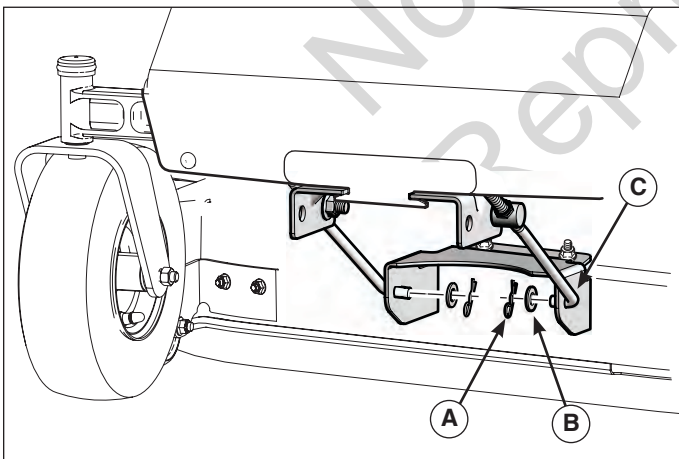

Figure 19. Front Lift Arms
10. Remove the hair pin clips (A, Figure 19) and washers (B) that secure the front hitch rods (C). Separate the front hitch rods from the mower deck.
2. Slide the mower deck forward and connect the front hitch rods (C, Figure 19) to the mower deck. Secure with washers (B) and hair pin clips (A).